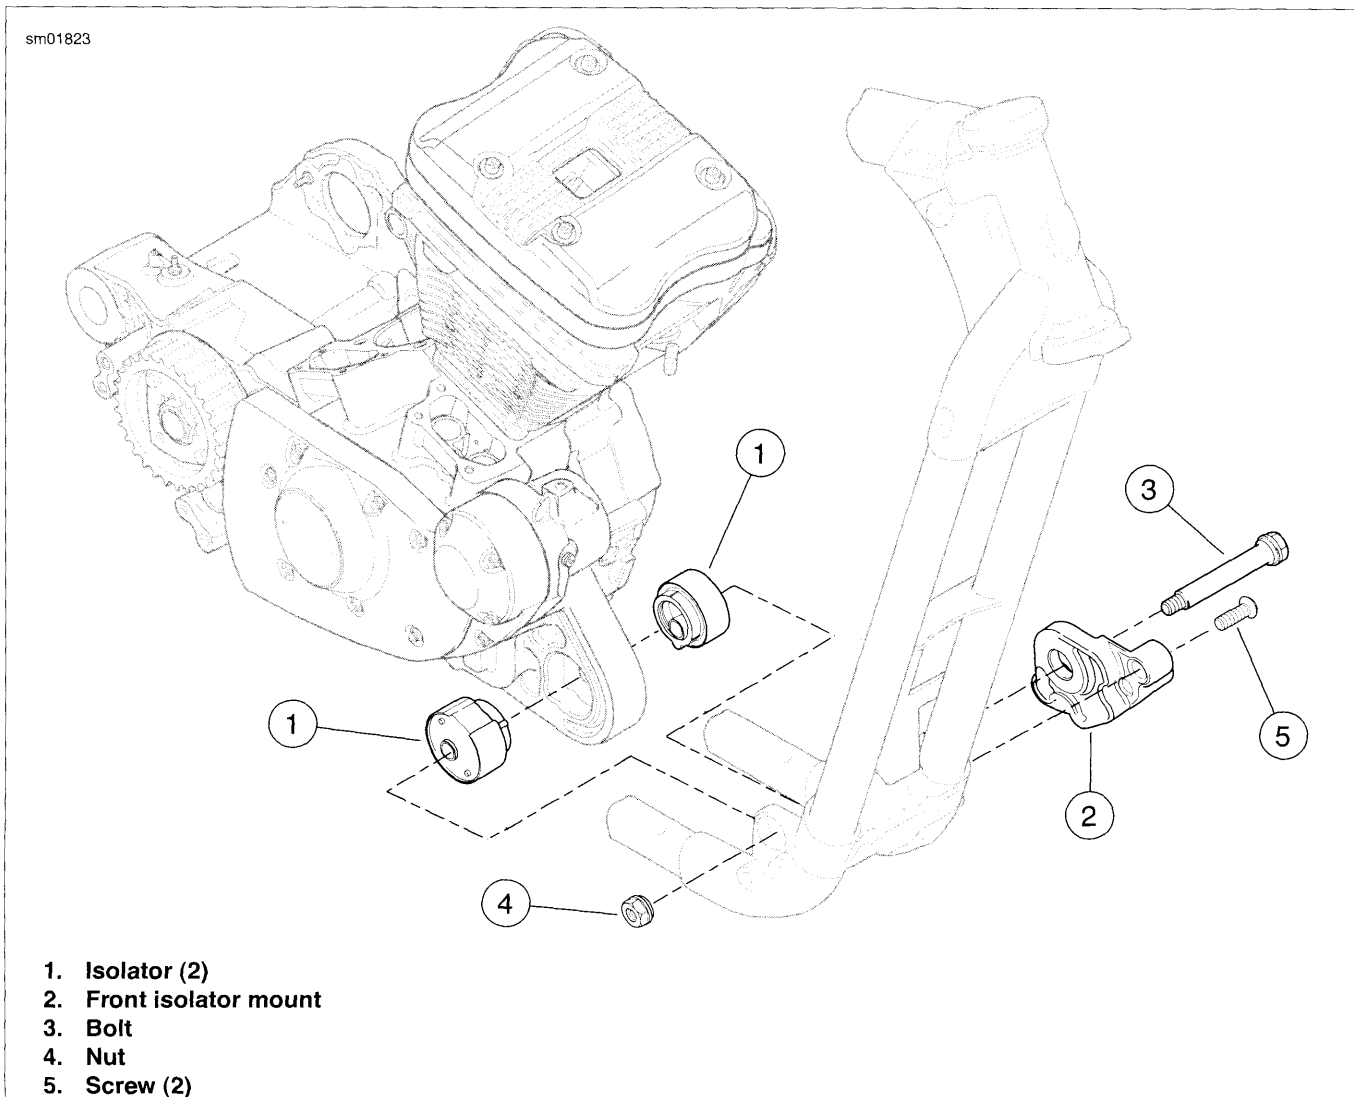

Figure 2-203. Front Engine Mount/Isolator: Typical (XL Model Shown)
See Figure 2-203. In the next step, the engine may need to be jacked up or down slightly to aid in removing bolt (3).
7. See Figure 2-203. Remove nut (4) and bolt (3) from front engine mount/isolator assembly.
8. Remove screws (5) from front isolator mount (2) on left side of motorcycle. Remove isolator mount and left front isolator (1).
9. Carefully pry front end of engine to the left approximately 1.0 in. (25.4 mm). Remove right front isolator (1) from crankcase.
1. See Figure 2-203. Install both front isolators (1) in engine mounting boss on front of crankcase. Note that each isolator has a half-moon tab and fits into engine mounting boss in only one way. Push engine to the right until right isolator contacts frame boss.
2. Install front isolator mount (2) over left front isolator.
3. Install screws (5) through front isolator mount and thread into frame. Tighten to 25-35 ft-lbs (33.9-47.5 Nm).
4. Insert bolt (3) through front isolator/engine mount assembly from left side. Thread nut (4) onto bolt. Tighten to 95-105 ft-lbs (129-142 Nm).